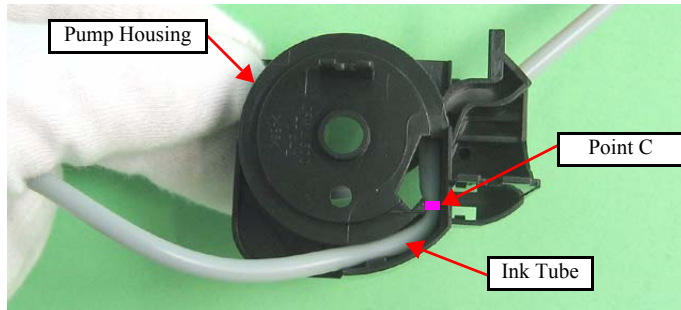

Figure 4-65. Assembling the Pump Assy (2)
7. Make sure that point C is placed in the correct position. (See Fig.4-65.)